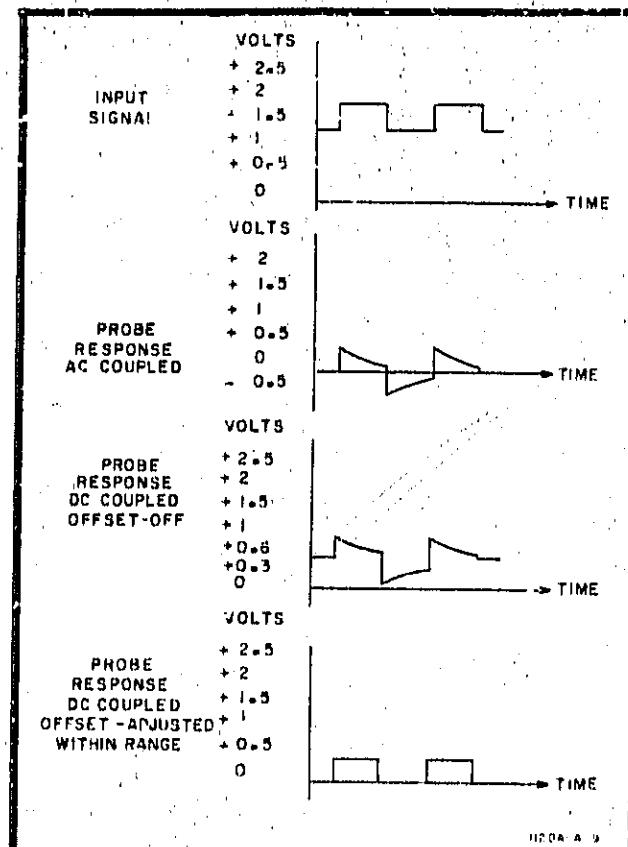

Figure 5. Low-frequency Offset Operation
18. When the dc level of the input signal is greater than ± 0.6 volt, the output of the DC-restore circuit will limit at approximately +0.6 volt or -0.6 volt (R1 fully counterclockwise). The dynamic range of the ac signal remains at ± 0.5 volt. See figure 5 for comparison between an input signal using the offset circuit and an input signal not using the offset circuit.